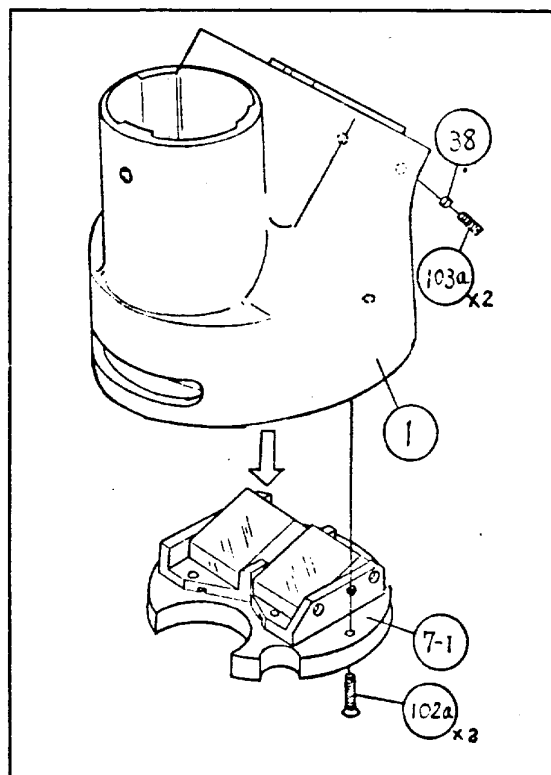

Fig. 17
- 14) Unscrewing the screws (102a)  $\times 2$ , remove the lens cell holder (7-1) with the lens and the prism (G1 ~ 3) (Fig. 17).